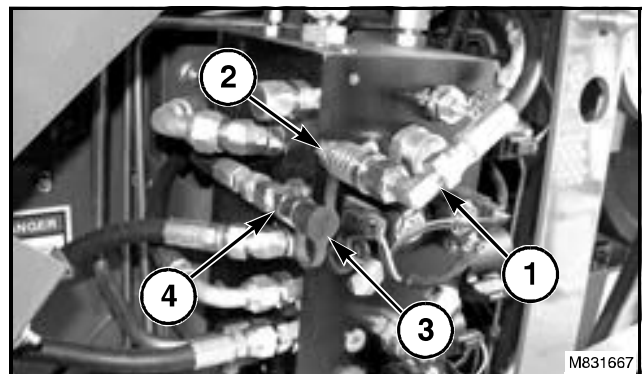

FIG. 21
FIG. 21: Axial Machine - If a corn head has been attached, install the variable speed hose (1) onto the male coupling fitting (2) in the main hydraulic control valve. Make sure the dust cap (3) is installed on the variable speed fitting (4) at the reel lift port.